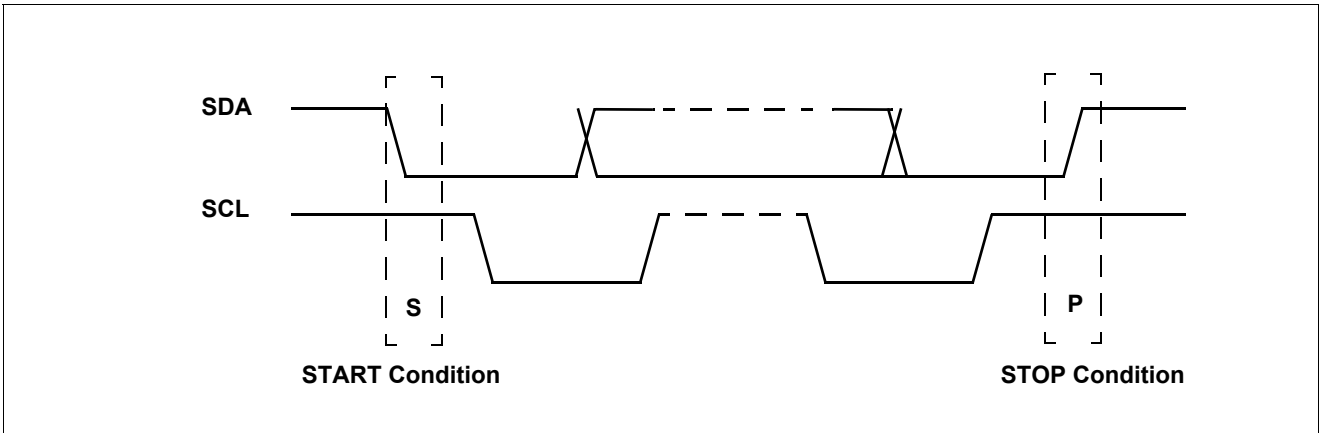

Figure 20-3 Start and Stop condition
Within the procedure of the I2C-bus, unique situations arise which are defined as START (S) and STOP (P) conditions (see Figure 20-3). A HIGH to LOW transition on the SDA line while SCL is HIGH is one such unique case. This situation indicates a START condition. A LOW to HIGH transition on the SDA line while SCL is HIGH defines a STOP condition. START and STOP conditions are always generated by the master. The bus is considered to be busy after the START condition. The bus is considered to be free again a certain time after the STOP condition. The bus stays busy